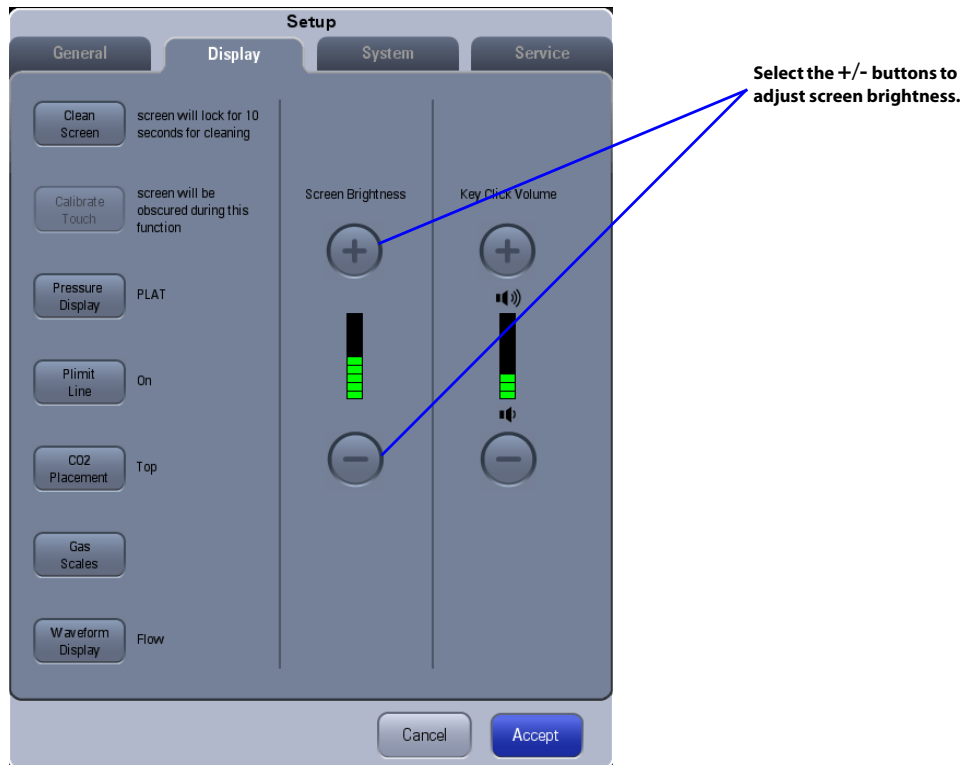

FIGURE 3-45 Display Tab > Screen Brightness Area
The **Display** tab provides access to screen cleaning, screen calibration, pressure parameter display, CO2 waveform placement, gas scales, waveform display, screen brightness and key click volume (see FIGURE 3-45).
1. Select **Setup** softkey > **Display** tab (See FIGURE 3-45).